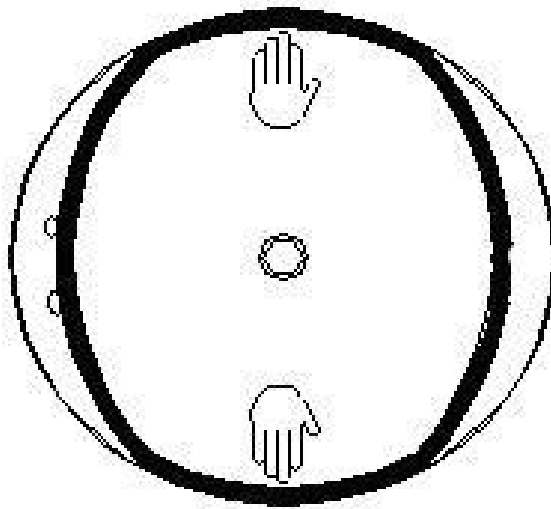
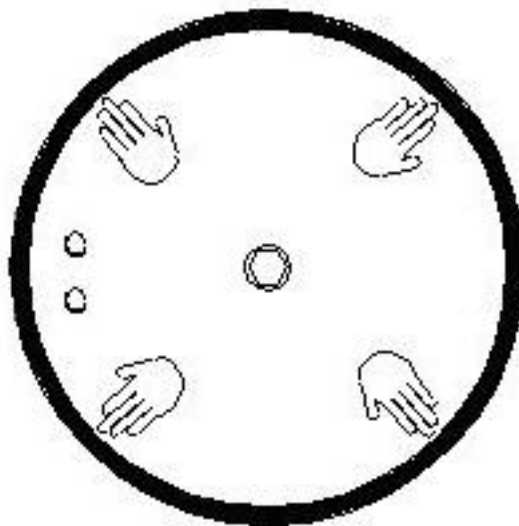

Figure 81
Figure 82
- B. Install the gasket to the door groove by using a non-sharp tool to push the gasket into the door groove as shown in Figure 81 and Figure 82.